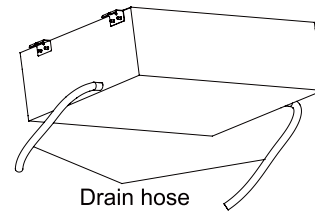

Fig.14
6. There is a drain port on both the left and right sides. Select the drain port to match the local conditions.(Fig.14)